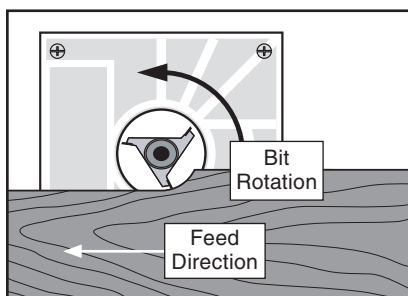

Figure 15. Correct feed direction and grain orientation (bottom view).
1. Examine top face of workpiece and determine direction of grain. Feed router so bit is cutting *with* grain (cutting along growth rings as shown in **Figure 15**). Cutting against grain chips wood rather than cutting it, making a rougher surface with more "chip out."
2. Pass router across workpiece with bit rotating opposite feed direction, as shown in **Figure 15**. If bit is moving in same direction you are feeding router, you are performing a "climb cut." This is a very dangerous operation because router could lunge forward out of your hands, causing serious personal injury.
4. Smoothly move router in correct feed direction along workpiece (see **Figure 15** on **Page 18**).